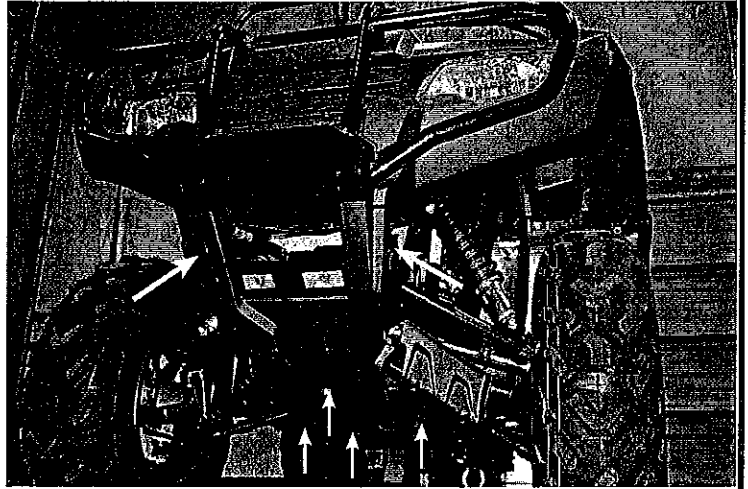

Figure 1
1. Remove the six front 6mm bolts and two clip pins holding plastic guards in place. See Figure 1.